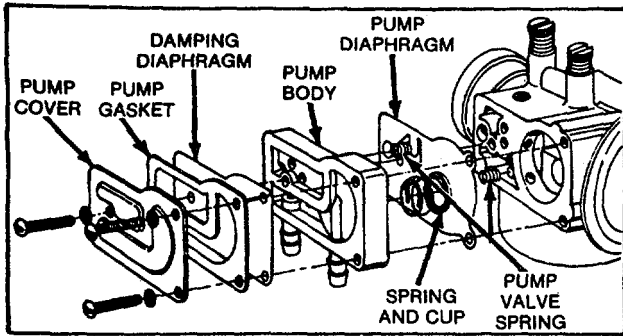
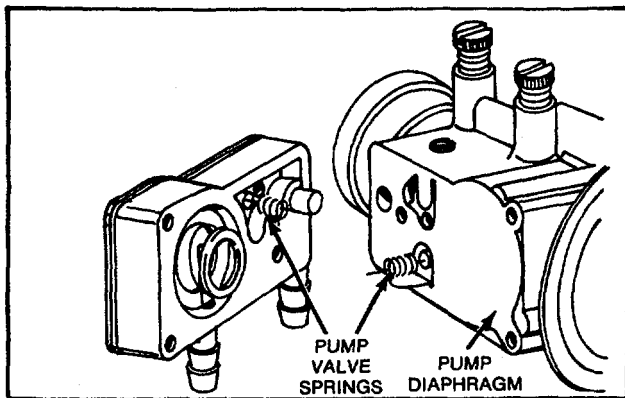

Fig. 105 - Assemble Fuel Pump
Fig. 106 - Pump Spring Location
Install main nozzle using blunt screw driver to prevent damage to slot and metering hole. Place bowl on carburetor and install bowl nut and washer. Install one (1) pump valve spring on spring boss, Fig. 106, and then place diaphragm on carburetor. Put pump spring cup and pump spring on diaphragm, Fig. 105. Place a pump valve spring on spring boss in pump body, Fig. 106, and place pump body on carburetor. Place damping diaphragm, pump gasket and pump cover on pump body and install three (3) screws. A fuel pump repair kit is available, see illustrated parts list for part number.